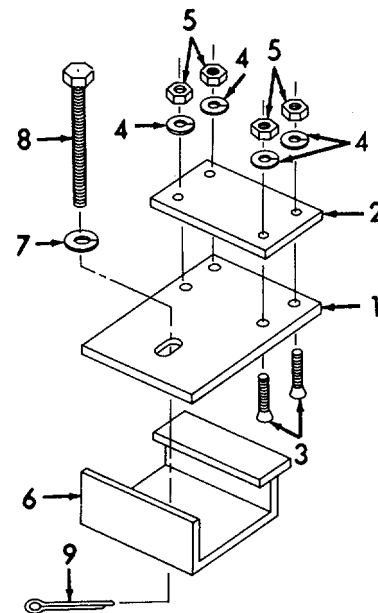

Figure 6-15. Holddown Clamp Assembly, Installation.
- (1) Inspect for loose, missing, or damaged hardware.
- (2) Inspect for rust/corrosion and damage.
- (3) Inspect for damaged threads and elongated holes.
- (4) Inspect for damaged welds.
f. Installation (Refer to Figure 6-15).